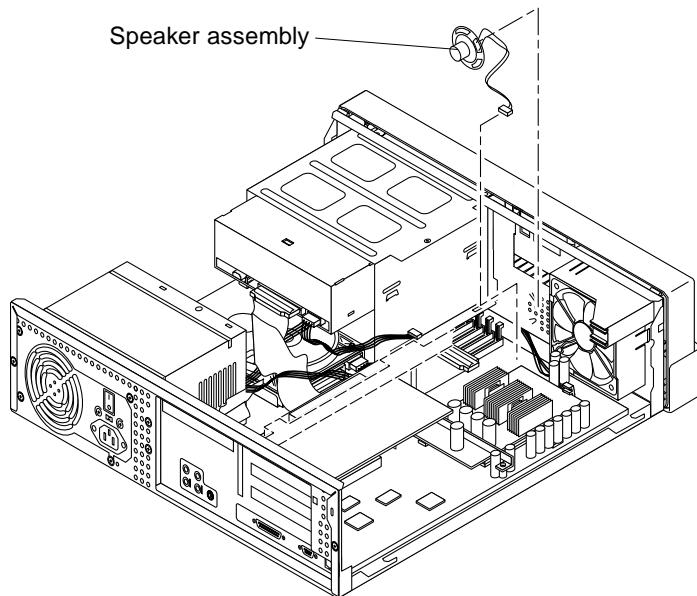

FIGURE 6-6 Removing and Replacing the Speaker Assembly
2. Remove the speaker assembly as follows (FIGURE 6-6):
1. Replace the speaker assembly as follows (FIGURE 6-6):